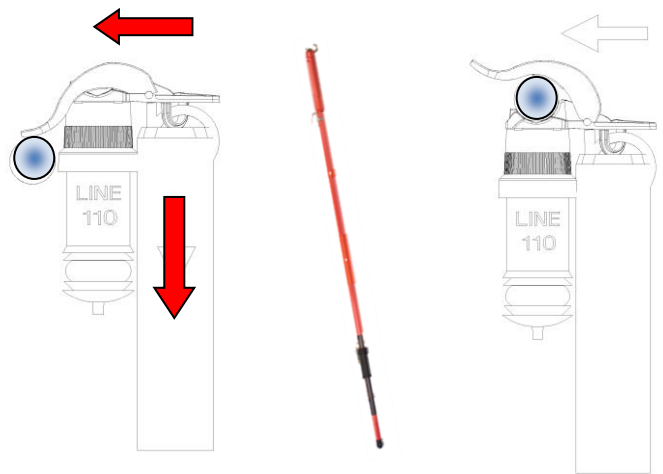

Figure 15: Mounting & Grip-All\_clamp hot stick
2. Pull the stick downwards and against the line, until the line is in correct position, see fig 15. Release the grip-all stick.
1. Fix the claw in the “eye” on the horizontal part of the line-clamp, see fig 15.